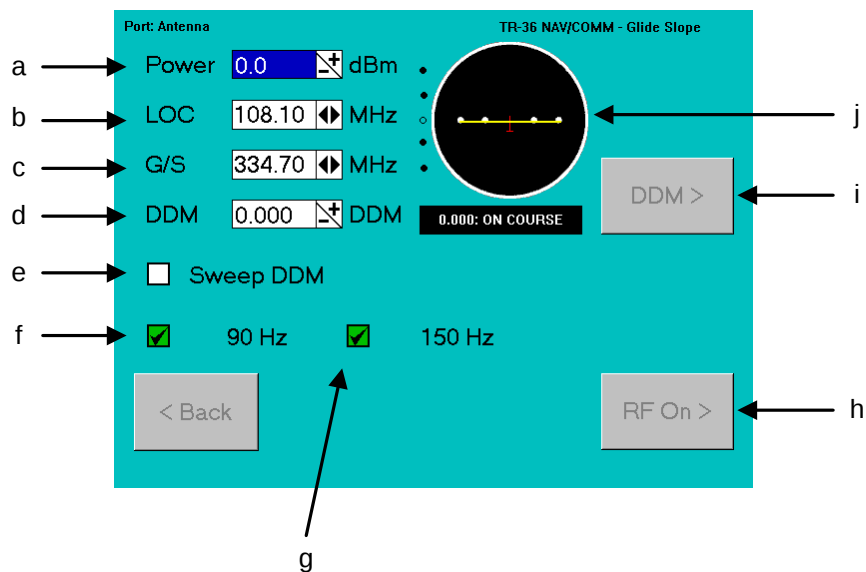

Figure 2-29. Glideslope Menu
5. The Test allows the operator to select the following settings (Table 2-7 and Figure 2-29).